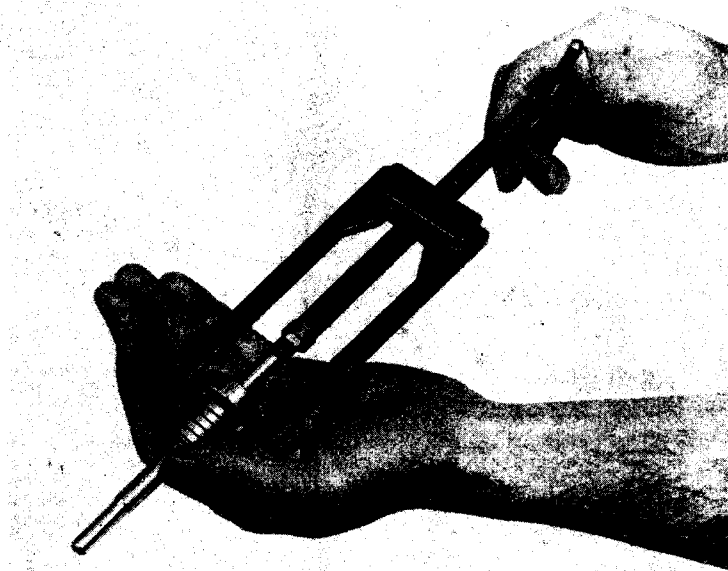

FIG. 11 RIGHT DRIVE SHAFT BEARING REMOVAL
- 13.7 Remove the right drive shaft bearing with a bearing puller as shown in Fig. 11.